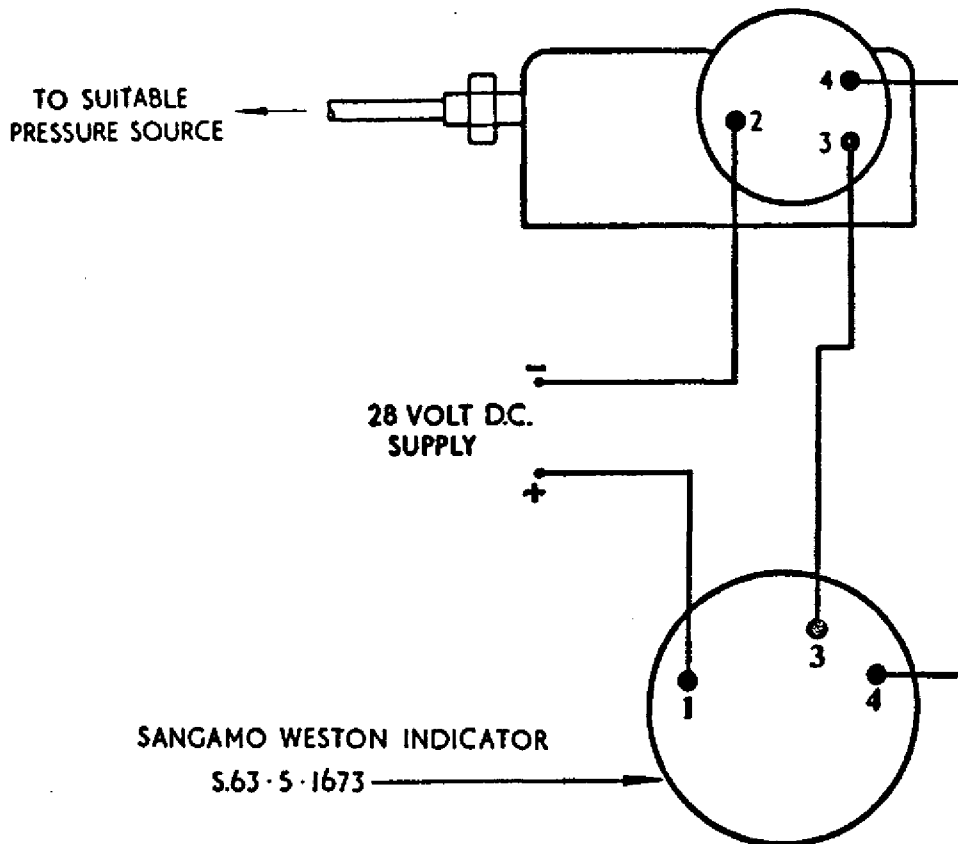

Fig. 3. Test circuit.
- (1) Connect the pressure transmitter into the circuit given in Fig. 3.